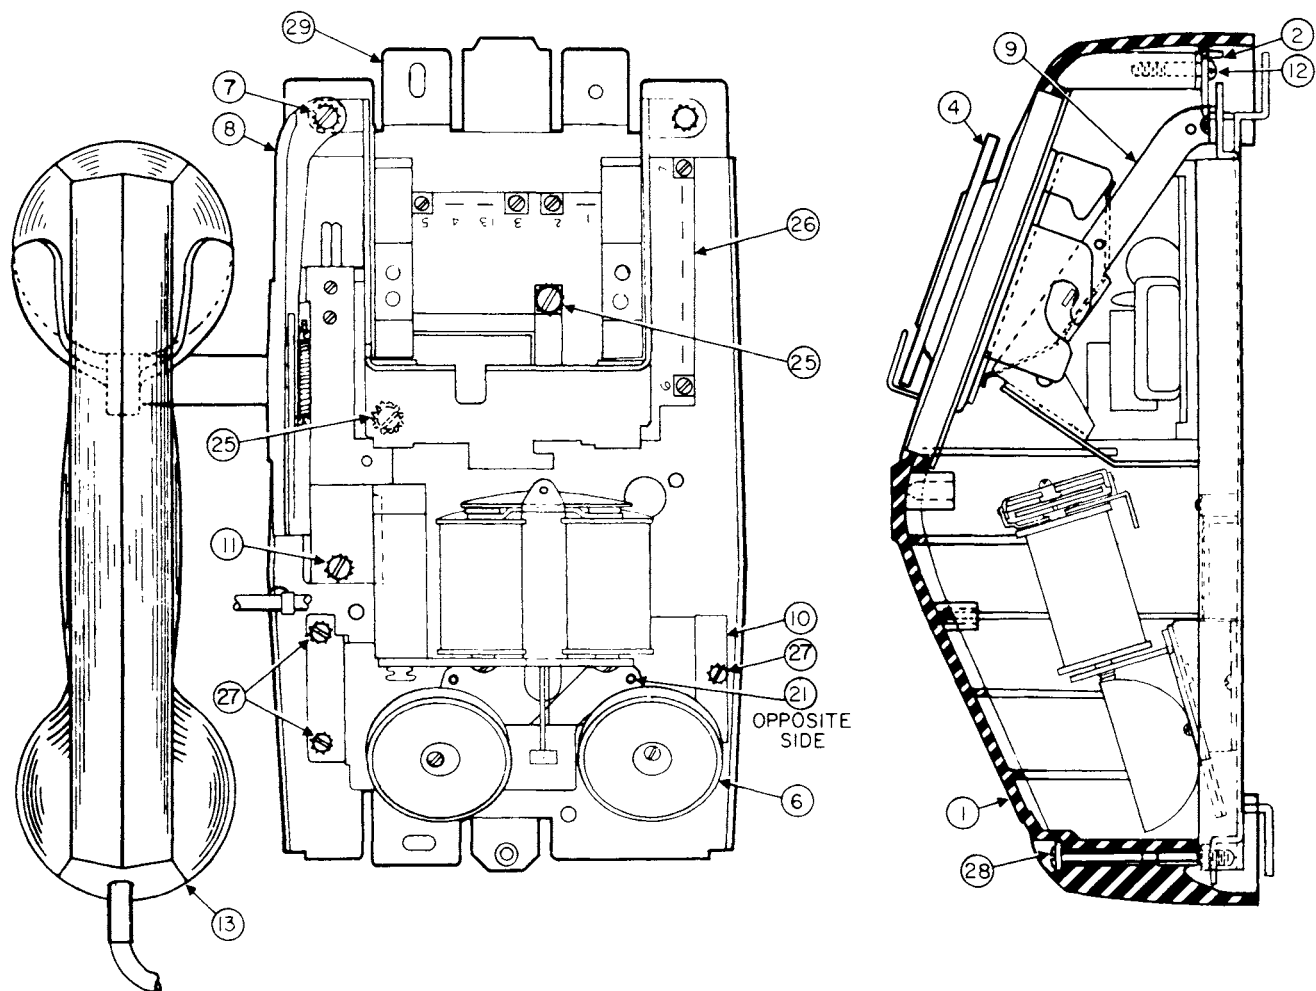

Figure 3. Type 90M Telephone Set, Front View with Cover Removed and Side View.
- (1) Remove the telephone set housing as instructed in Paragraph 3.02.
- (2) Perform the operations of Steps 2 and 3 of Paragraph 3.03.
- (3) Disconnect all leads from the transmission unit terminals.
- (4) Remove the two transmission unit mounting screws (Item 25, Figure 3).
- (5) Lift the transmission unit out of the telephone set baseplate.